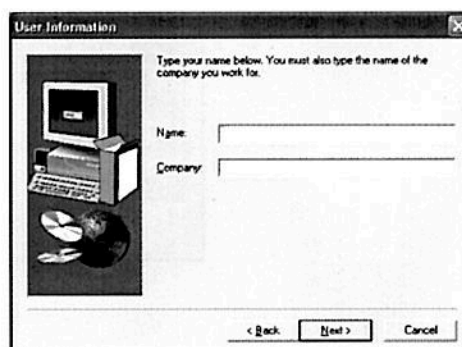

Fig. 2-2
4. Input user's information (Fig. 2-2). Click **Next**.